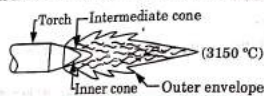

Fig. 4.5.4. Carburizing flame.
2. This flame, as shown in Fig. 4.5.4 has the following three zones :